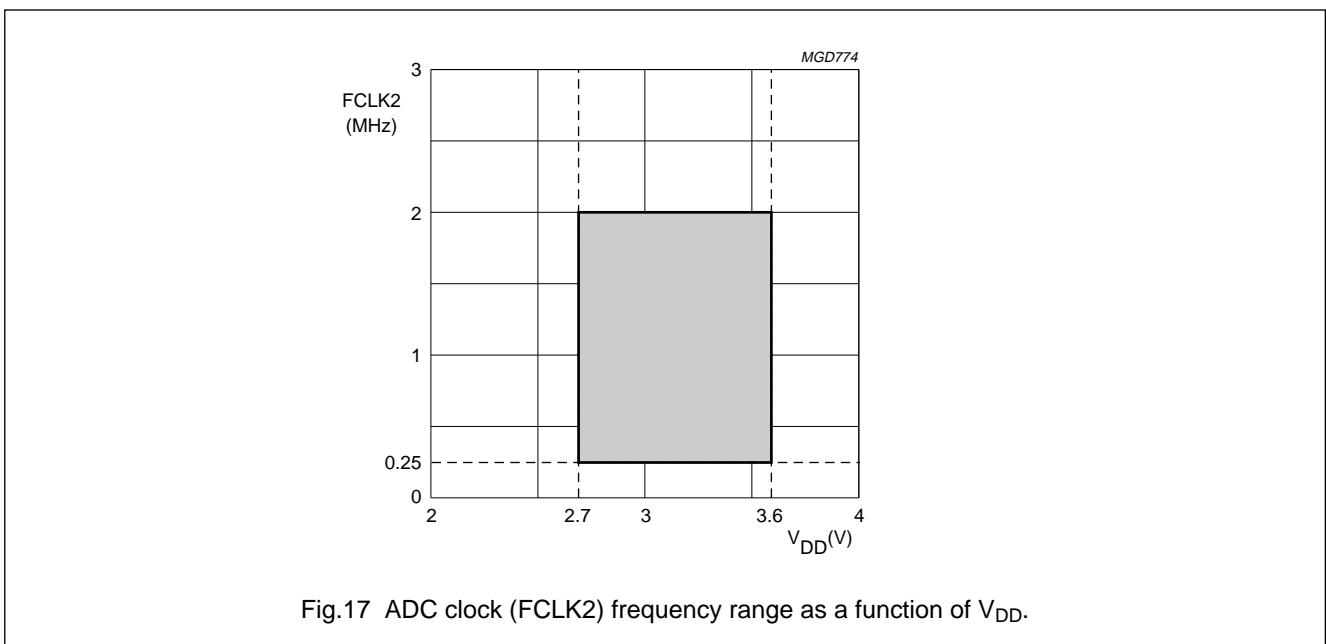

Fig.17 ADC clock (FCLK2) frequency range as a function of V_{DD}.
- See Fig.17 for specific F_{CLK2} range as function of V_{DD} .